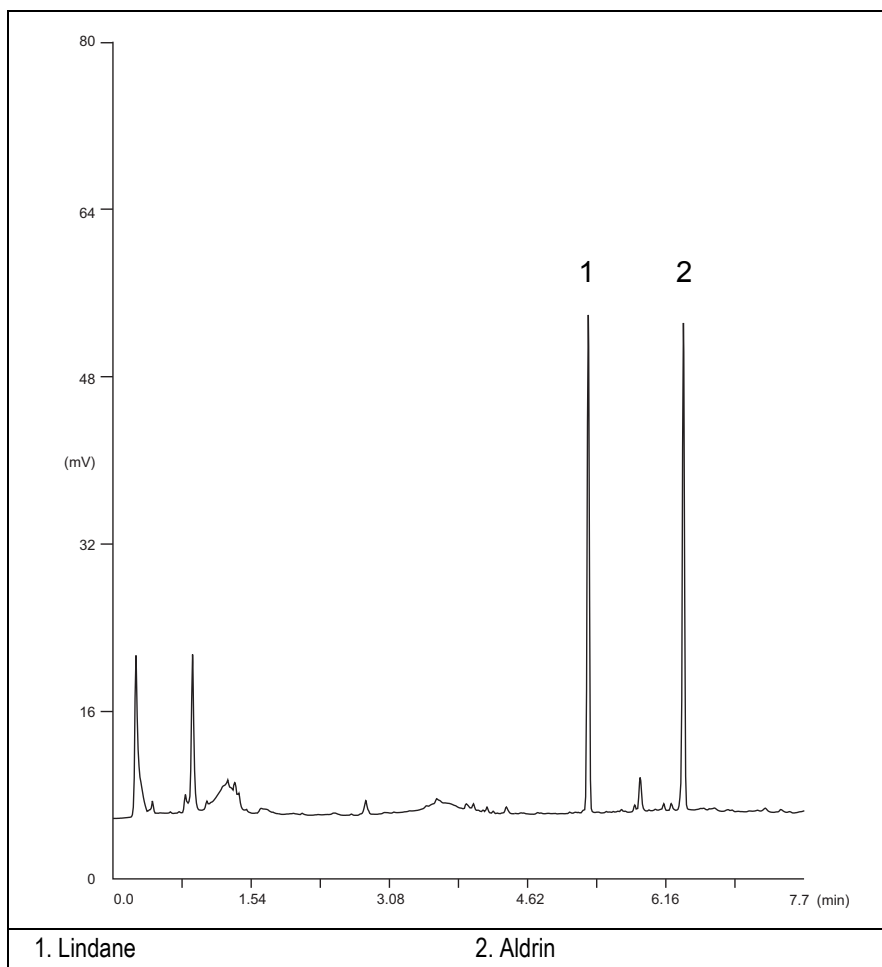

Figure 11-1. ECD-PTV Injection
16. When the GC is ready, inject the test mixture and press **START** on the GC to begin the checkout run. The resulting chromatogram should look like the one shown in *Figure 11.1*.